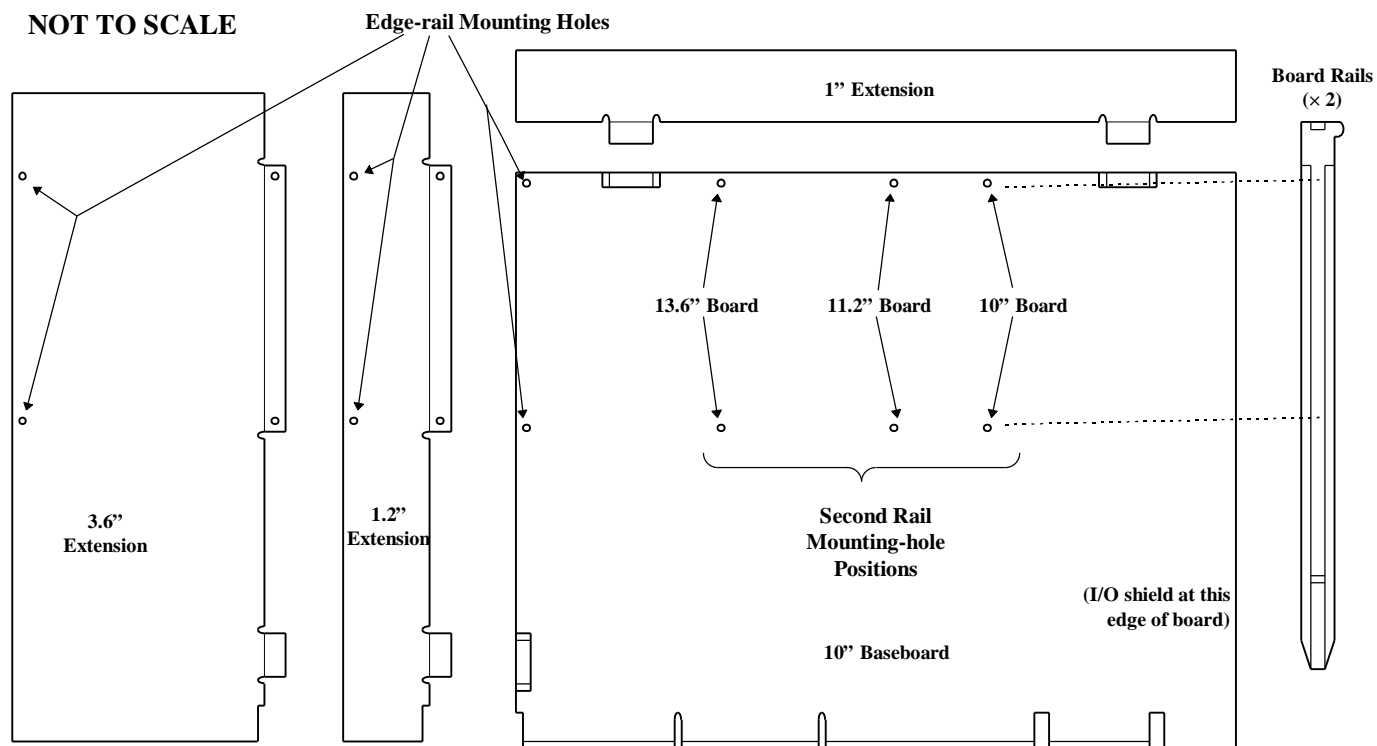

Figure 3: Board Rail Mounting Locations
The specification defines a fixed distance (158.12mm / 6.225") between the rails for all three allowed lengths of motherboard. Figure 3 shows the rail mounting hole locations.
- **In-board rail:** Attach the second rail in-board on the secondary side of the baseboard using the screws provided. Be careful to install this rail using the correct pair of mounting holes for the board length being modeled (10", 11.2", or 13.6"). See Figure 3.